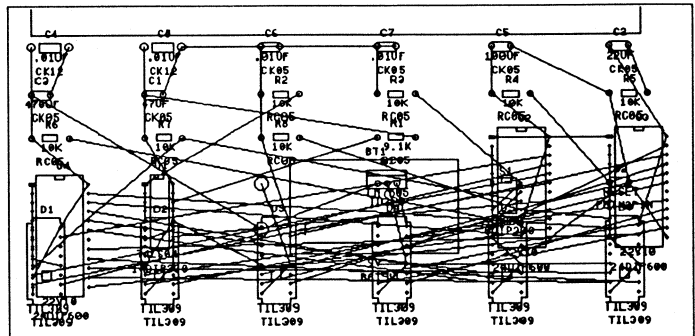

Figure 6-4. Ratsnest of the TUTOR layout.
3. Select **RatsNest Block**. All modules in the block display their ratsnest connections (figure 6-4).